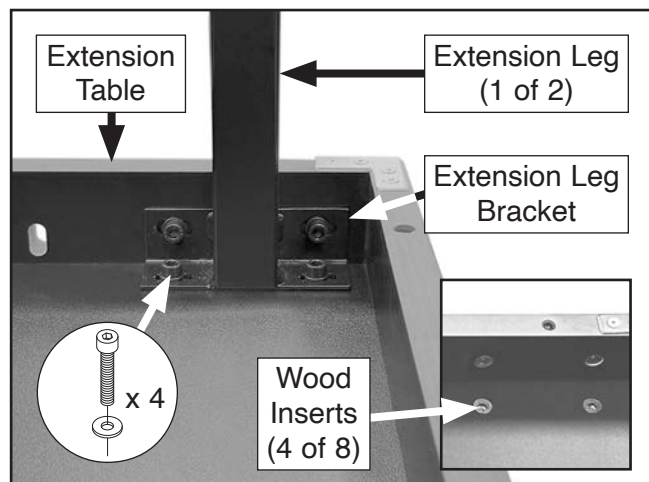

Figure 10. Extension leg attached to bottom of extension table.
13. Align holes in each extension leg bracket with wood inserts on right and left sides of extension table, then secure each leg with (4) M6-1 x 14 cap screws and 6mm flat washers, as shown in **Figure 10**.